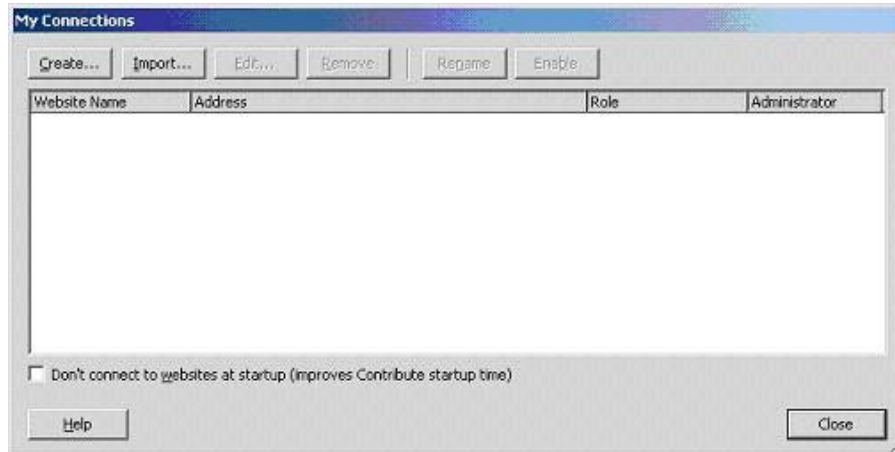

Figure 13.19 My Connections Window
1. Start Macromedia Contribute, and select **My Connections** from the **Edit** menu. The window shown in Figure 13.19 opens.